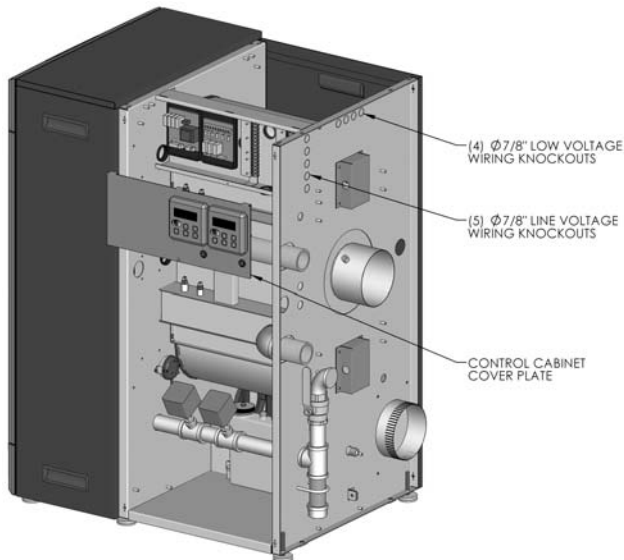

Figure 7.1: Electrical Terminal Access
1. Electrical knockouts are provided on the rear panel of the PF-850, PF-1000 and PF-1500 boilers to connect supply wiring, circulator wiring, external controls and/or external sensors. Figure 7.1 shows these knockouts.
- a. There are (5) 7/8" diameter knockouts for line voltage connections such as supply wiring, circulator wiring and low water cutoff (LWCO) wiring.
- b. There are (4) 7/8" diameter knockouts for low voltage connections such as outdoor sensors, domestic hot water (DHW) tank sensors and system sensors.
2. Electrical terminals are located behind the control cabinet cover plate where the Burner LCD Displays are mounted (See Figure 7.1).